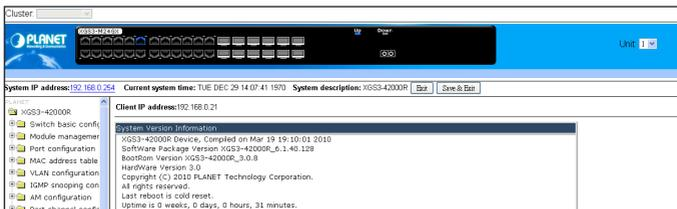

Figure 12-2 Web Main Screen of XGS3 Chassis Switch
3. After entering the password, the main screen appears as Figure 12-2.